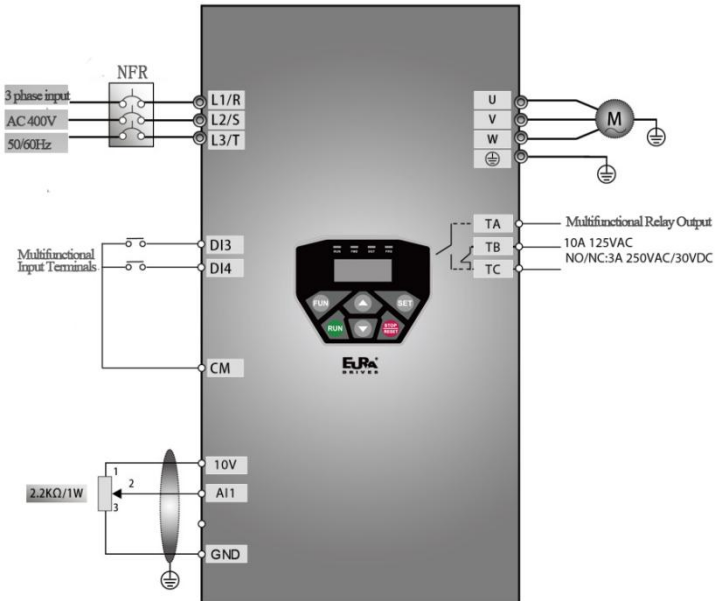

Figure 5-3 Wiring Diagram
(1) Connect the wires in accordance with Figure 5-3. After having checked the wiring successfully, switch on the air switch, and power on the inverter. Note: 2K~5K potentiometer may be adopted for setting external analog signals. For the cases with higher requirements for precision, please adopt precise multiturn potentiometer, and adopt shielded wire for the wire connection, with near end of the shielding layer grounded reliably.